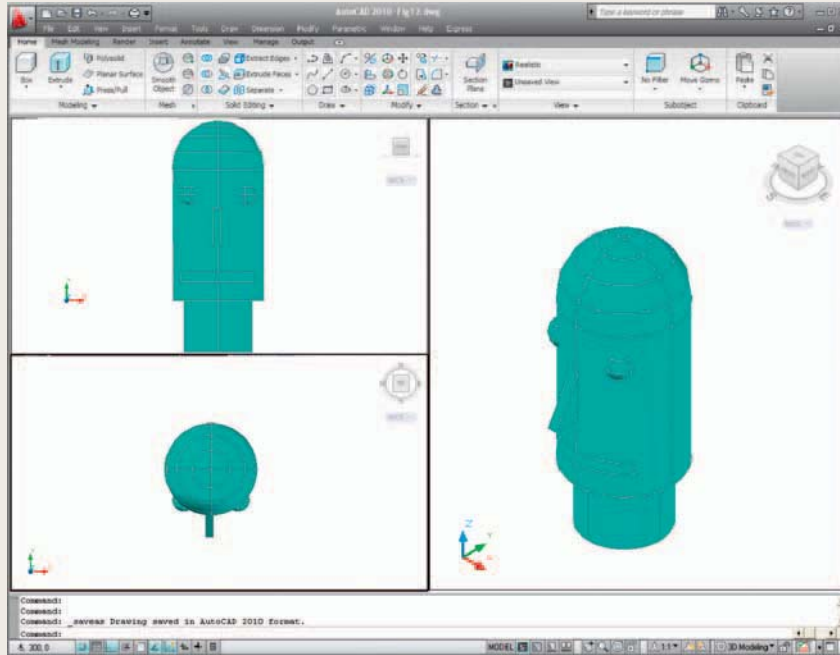

Fig. 13.12 Exercise 1
- Using the **Cylinder**, **Box**, **Sphere**, **Wedge** and **Fillet** tools, together with the **Union** and **Subtract** tools and working to any sizes thought suitable, construct the “head” as shown in the **Three: Right** viewport in Fig. 13.12.